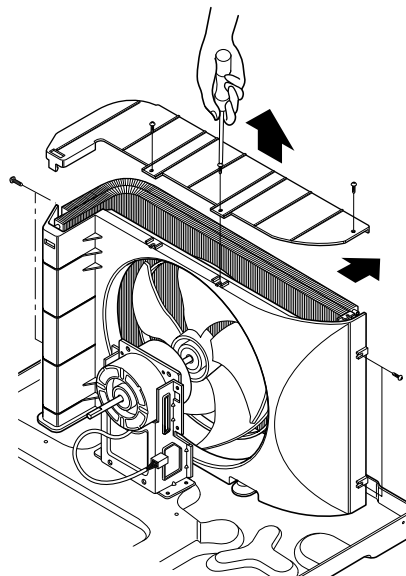

Figure 16
6. Re-install the components by referring to notes. (See Fig. 16)